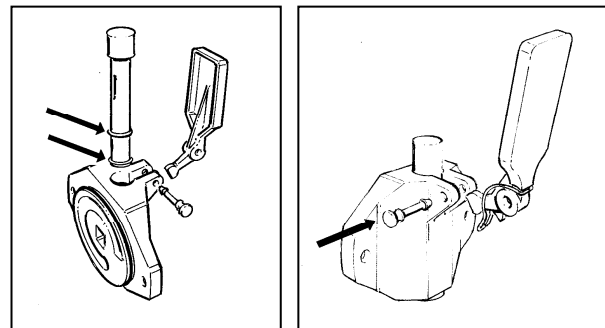

Fig. 29
- After installing the piston seals and lubricating them as necessary (fig. 29), insert the piston into its housing in the flange, mount the dispensing lever together with its spring and connect them with the fixing pin (fig. 29).